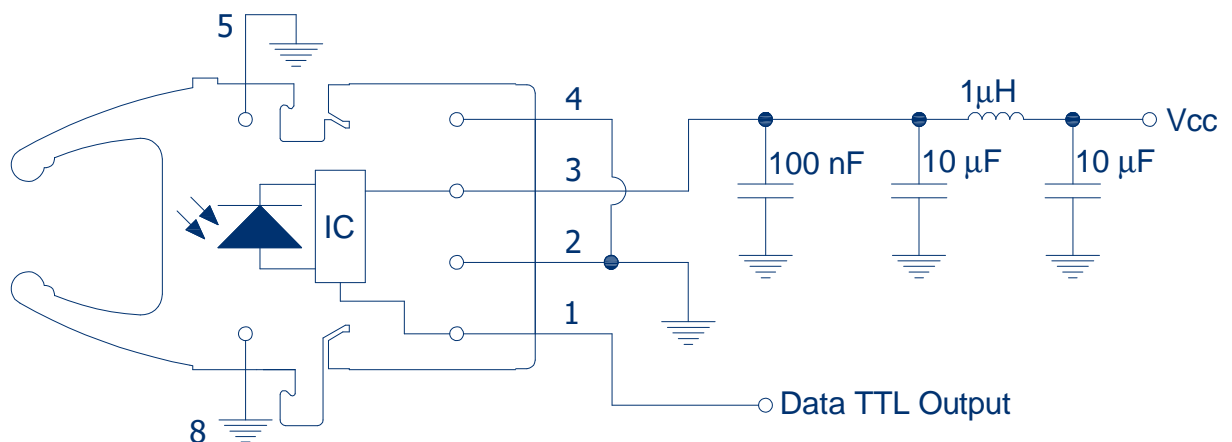

FIGURE 2
1. Pin 4 is electrically isolated internally. Pin 4 may be externally connected to pin 1 for board layout compatibility with existing designs. Otherwise it is recommended pin 4 be grounded as in Figure 2. Pins 5 and 8 are used for mounting and retaining purposes. Connect both to ground.